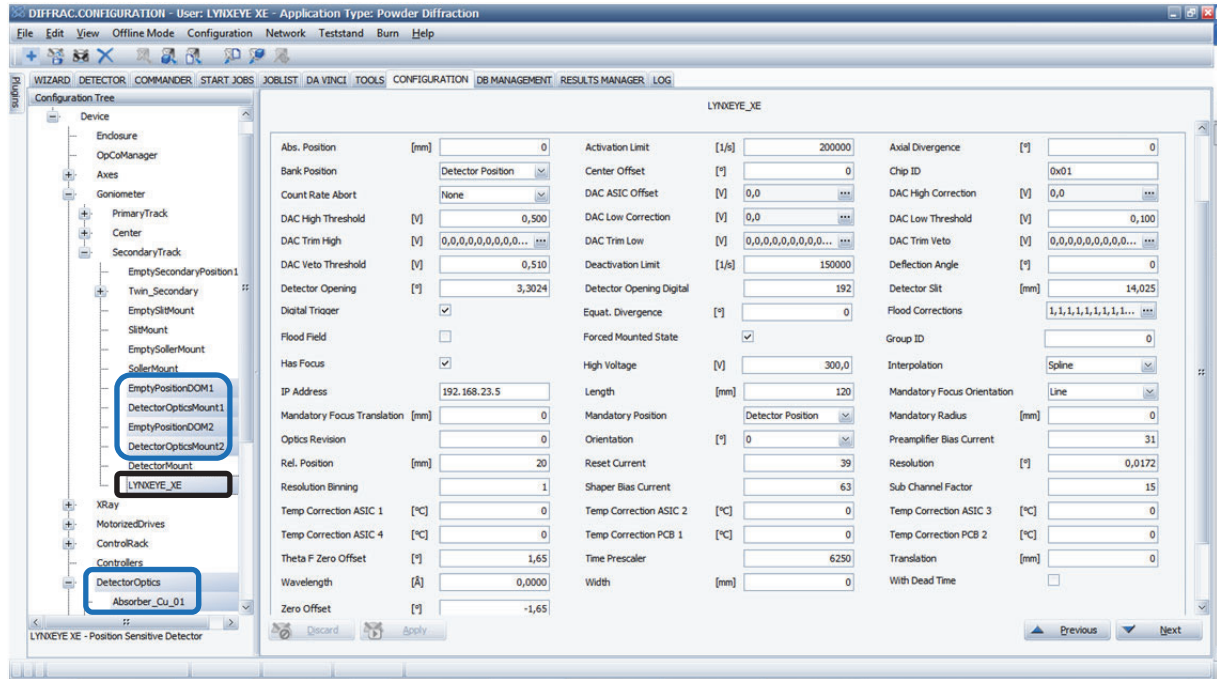
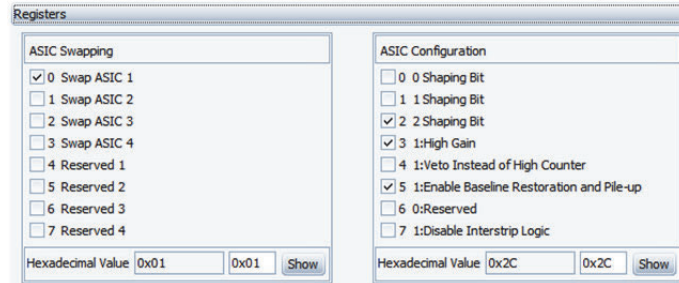

Figure 6.3: Default Template for diffractometer alignment (high count rate, Cr, Co and Cu rad.).
Figure 6.4: Registers for diffractometer alignment Template
4. Together with section LYNXEYE XE, which contains all relevant detector parameters, additional sections which are responsible for optics recognition, appear (Figure 6.3 and Figure 6.4). The parameters are described in a separate chapter.